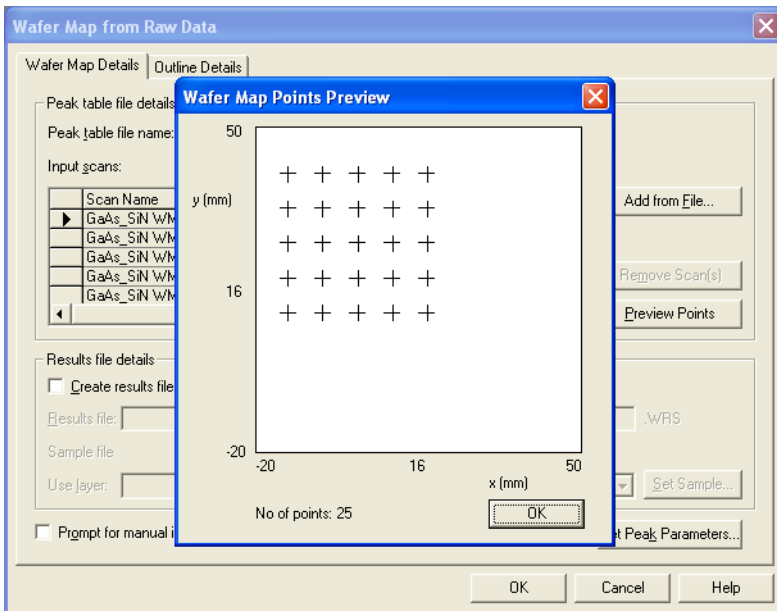

Figure 4-3: The Wafer Map from Raw Data Window with the Preview Display
- You will see a 5x5 grid of measured points as shown in Figure 4-3. The points are in the centre of the wafer. The positions are shown in terms of the X and Y co-ordinates of the MRD cradle. The centre of the wafer was at X=2 mm, Y=26 mm.